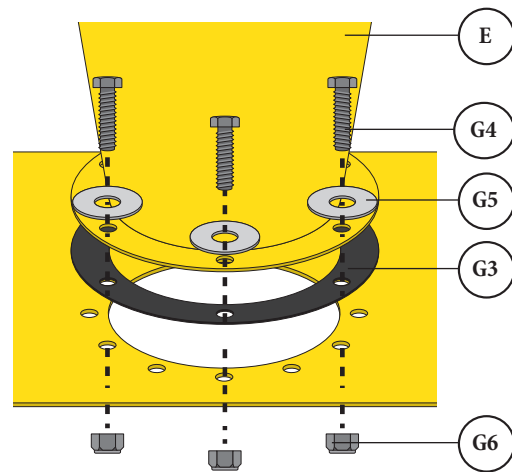

FIG. 10b
Place the Flange Gasket (G3) and the Cyclone (E) onto the Mounting Bracket (F) and align the hole patterns on all three items. Secure together using six Hex Head Bolts (G4), six Flat Washers (G5), and six Nylock Nuts (G6) [FIG. 10b].